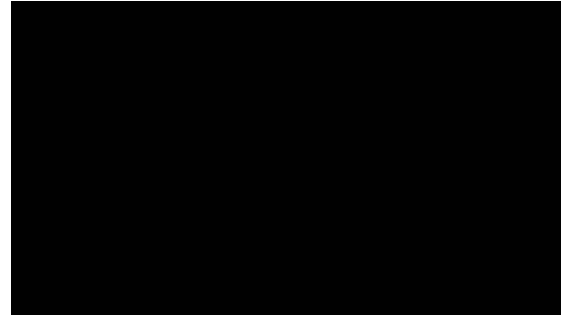

Fig. 1
- Have the models held by pushing them about 2 cm deep and upright in the rim of the storage box (Fig. 1).